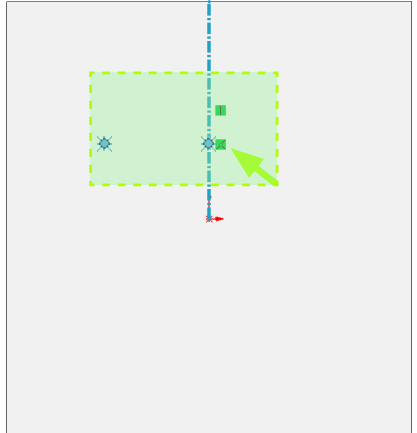

Fig. 9
Step 9. **Drag a selection to left** select all geometry, **Fig. 9**.